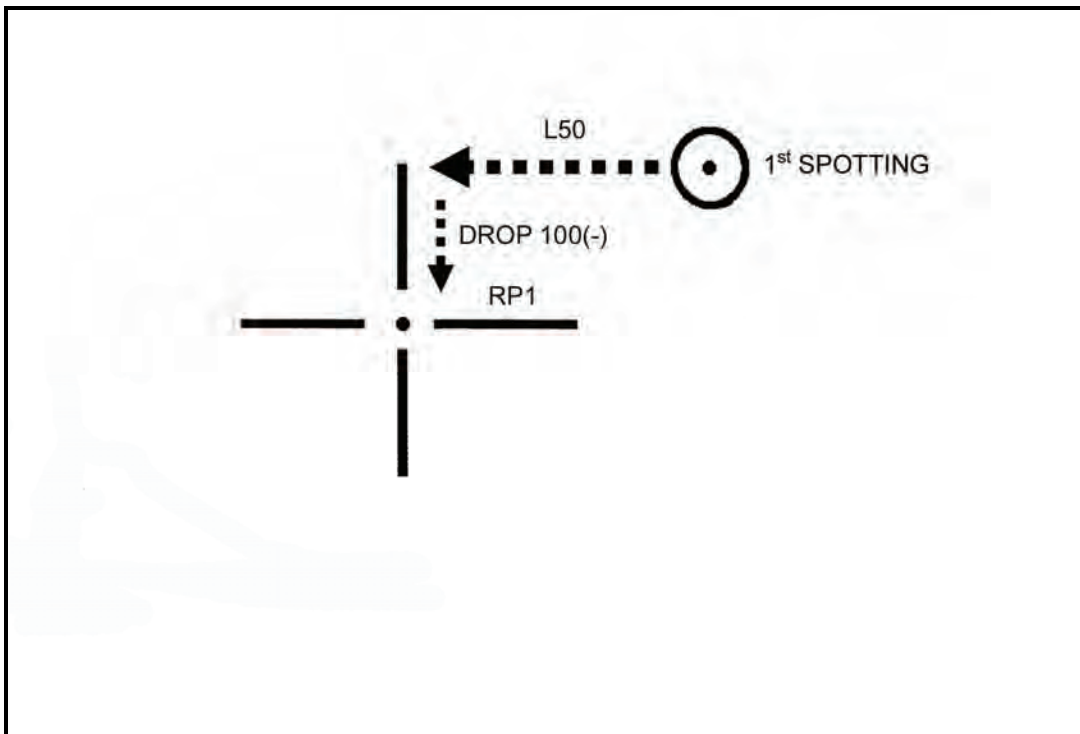

Figure 14-13. Application of correction to fire the second round.
- (4) Once the spotting has been determined, the FDC converts the spotting into a correction to fire the second round. He does this by reversing the signs of the spotting. He then applies that to the RP on the azimuth of the radar position (Figure 14-13).